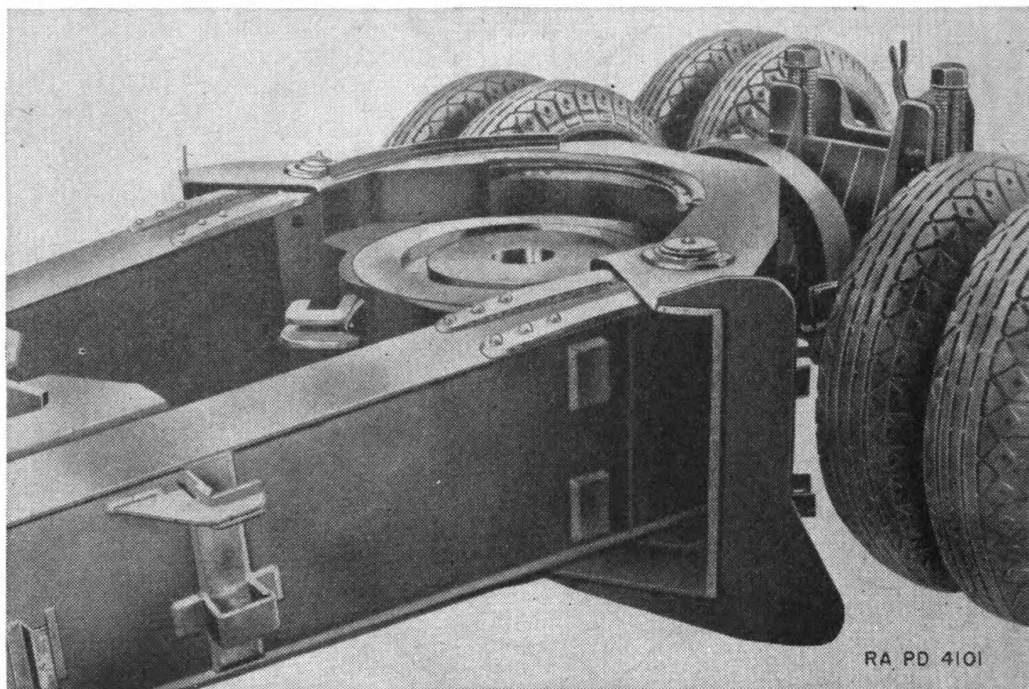

FIGURE 16.—Bottom carriage pintle.
10. Assembling of carriage.—*a. Trails to bottom carriage.*—Assemble the trails to the bottom carriage by means of the trail pins (C73103) (figs. 16 and 17). Locate the trail pins on the pins (BFDX2CC) on the top and secure the assembly by the threaded plugs (B105026) on the bottom. Lock the plugs by means of screw (BCKX2CK) and see that the oil wells in the trail pins are fitted with clean waste saturated with lubricant.